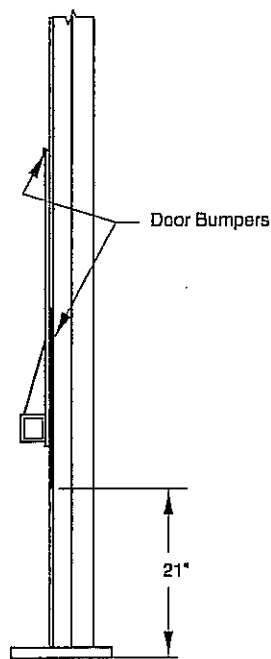

Fig. 14
- 1) Press 18" bumper on column edge, Fig. 14.
- 2) Press 6" bumper on top edge of carriage tube, Fig. 14.